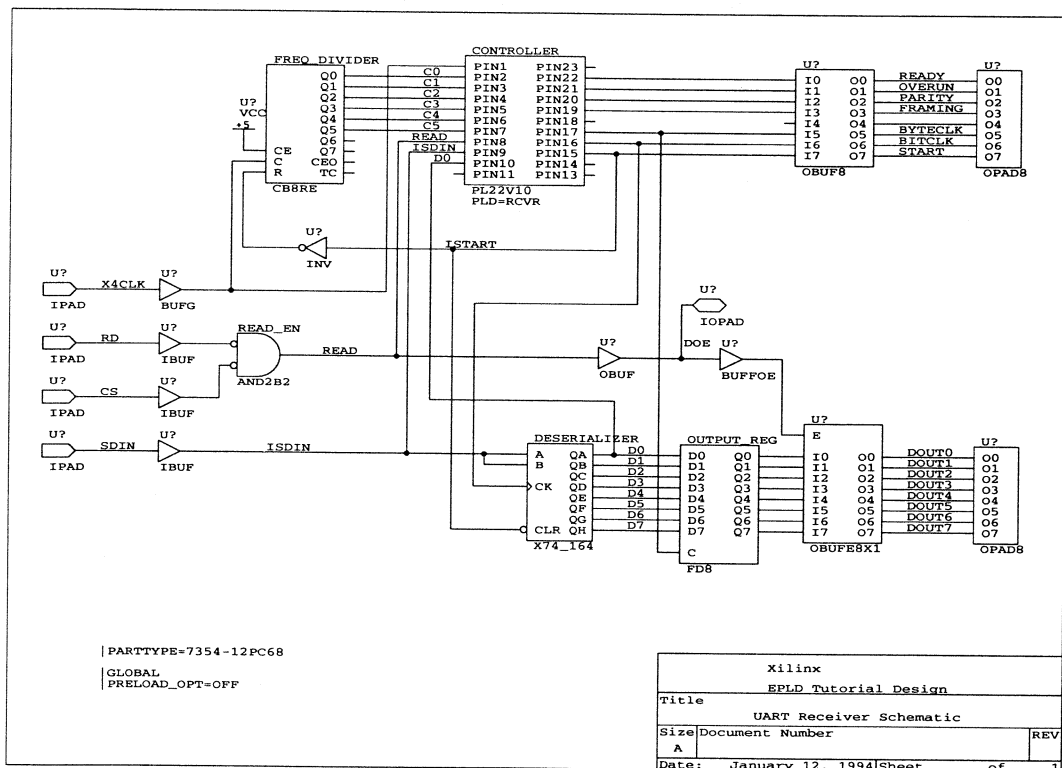

Figure 16-10 Completed UART Schematic
3. Using the mouse, move the text to the blank area near the lower left corner of the design border. Refer to Figure 16-10.
You now know enough Draft commands to finish the schematic on your own. Figure 16-10 shows the completed UART receiver schematic.
1. Add the remaining components, wires, and labels as shown in Figure 16-10.